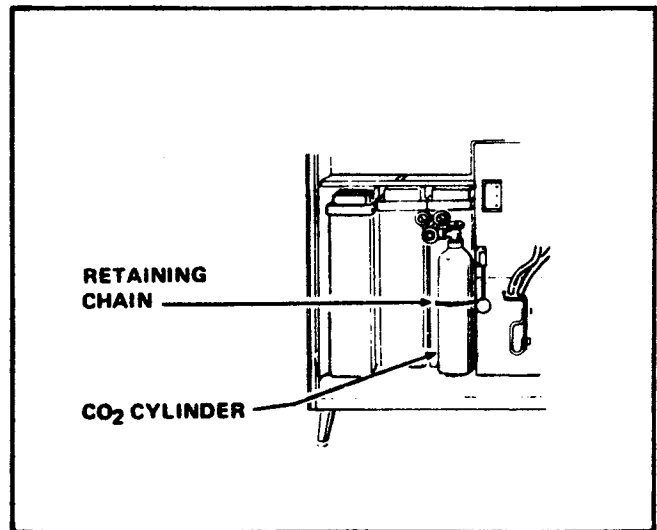

Figure 2-6. CO2 Cylinder Placement
- A. Position the CO2 Cylinder in the Merchandiser. See Figure 2-6. Attach the Retaining Chain to hold the Cylinder upright and in place.